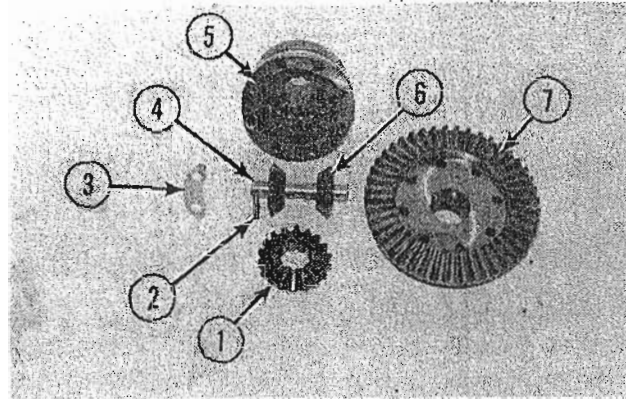

FIG. 2
Figure 2 identifies the parts of the front and rear ring gear and differential carrier sub-assemblies.
- (1, Fig. 2) Planetary gears.
- (2, Fig. 2) Retaining pin.
- (3, Fig. 2) Locking plate.
- (4, Fig. 2) Cross pin.
- (5, Fig. 2) Differential carrier.
- (6, Fig. 2) Satellite gears.
- (7, Fig. 2) Ring gear.
Remove the planetary gears (1, Fig. 2) from the ring gear (7, Fig. 2) and carrier, (5, Fig. 2) pull the retaining pin (2, Fig. 2) from the face of the carrier, tap out the cross pin (4, Fig. 2) and remove the (2) satellite gears (6, Fig. 2).